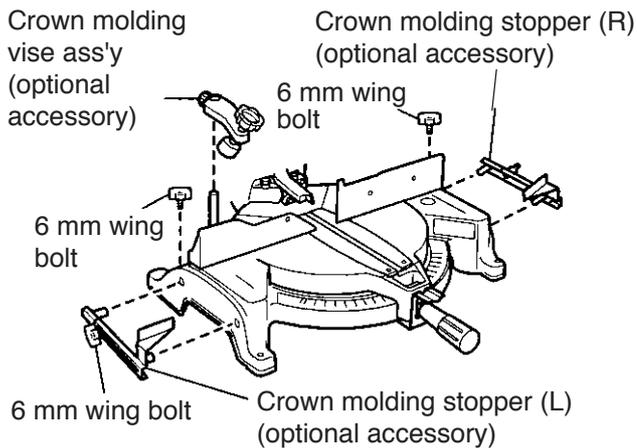

Fig. 22
(1) Crown molding stopper (L) and (R) (optional accessories) allow easier cuts of crown molding without tilting the saw blade. Install them to both sides of the base as shown in Fig. 22. After inserting, tighten the 6 mm knob bolts to secure the crown molding guides.